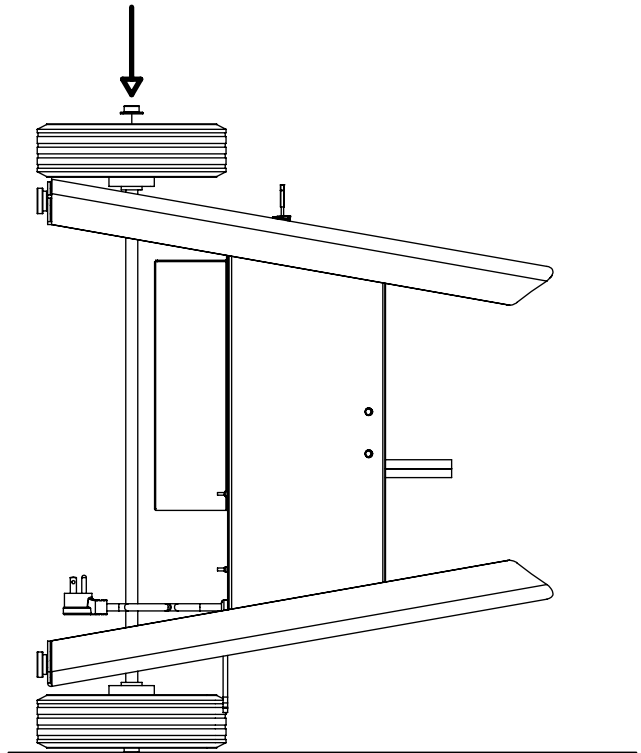

FIGURE 7: WHEEL INSTALL
Step 6: Install the wheels and axle shaft into the base assembly by resting the base assembly on its side as shown in Figure 7. Use a rubber mallet or hammer to install the supplied push nut onto the free end of the axle shaft. After installing the wheels, right the base assembly and adjust the leveling legs until it is level. **Be careful not to damage the air control damper on the front of the unit.**